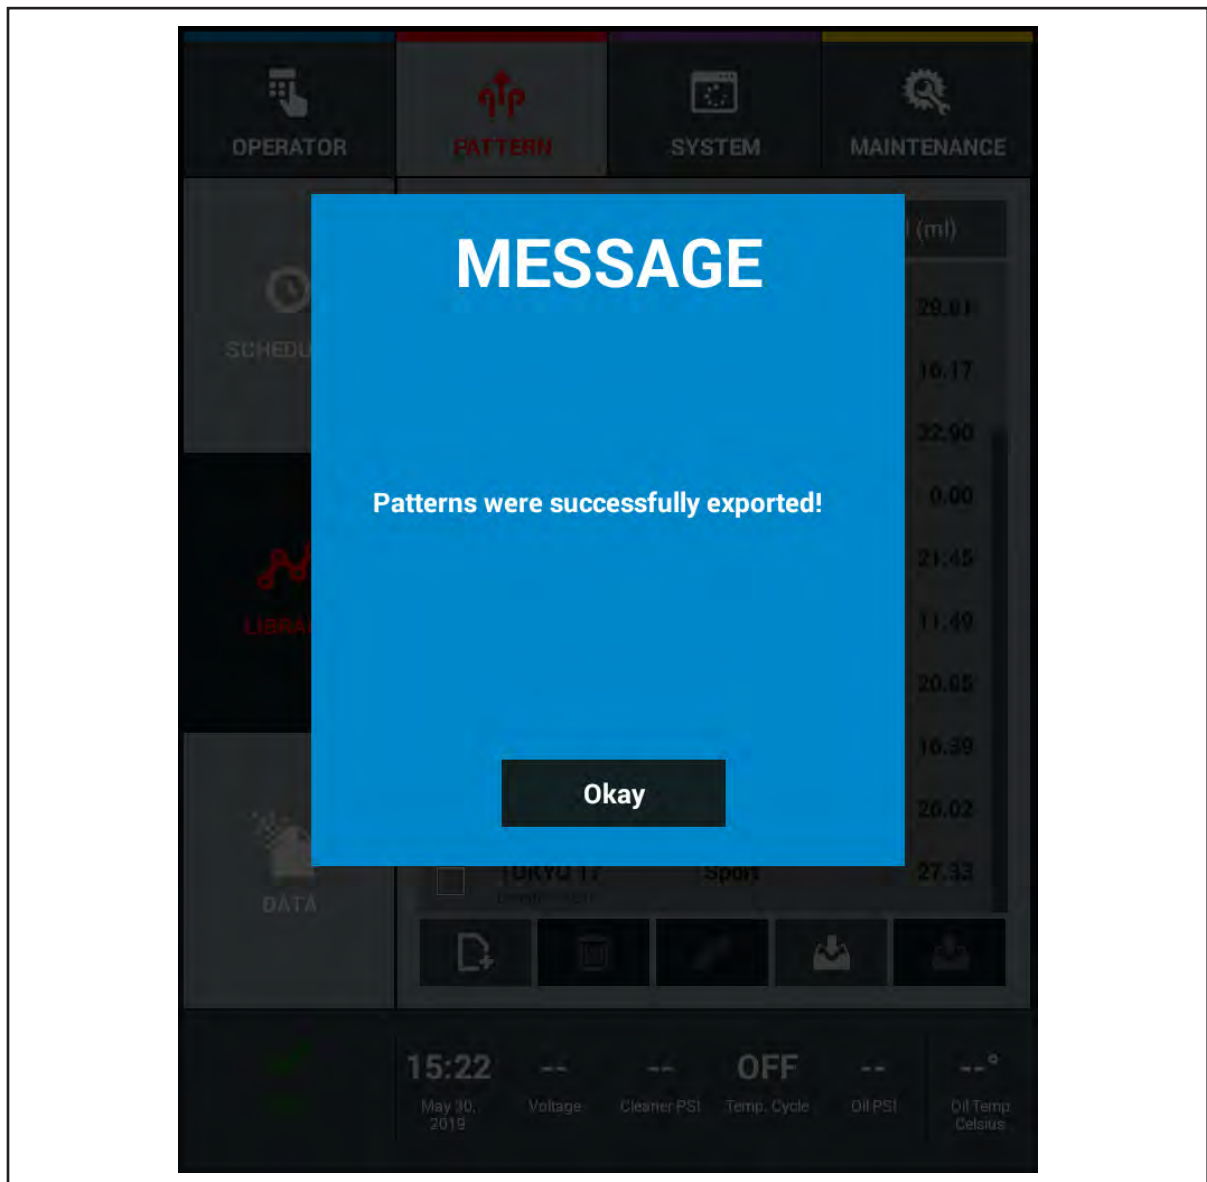

Figure 8-10. Export Successful Message
3. Press the Export button on the lower right of the screen. You will see the pattern upload progress bar followed by a message that the pattern(s) were successfully exported. Refer to *Figure 8-10*.